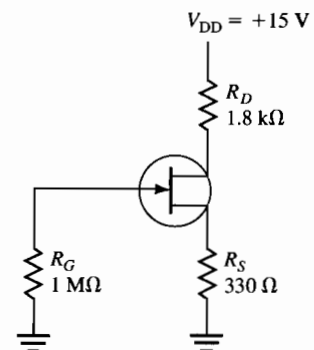

Figure C-18-2
14. For the circuit shown in Figure C-18-2, assume that $V_S = +1.4$ V.